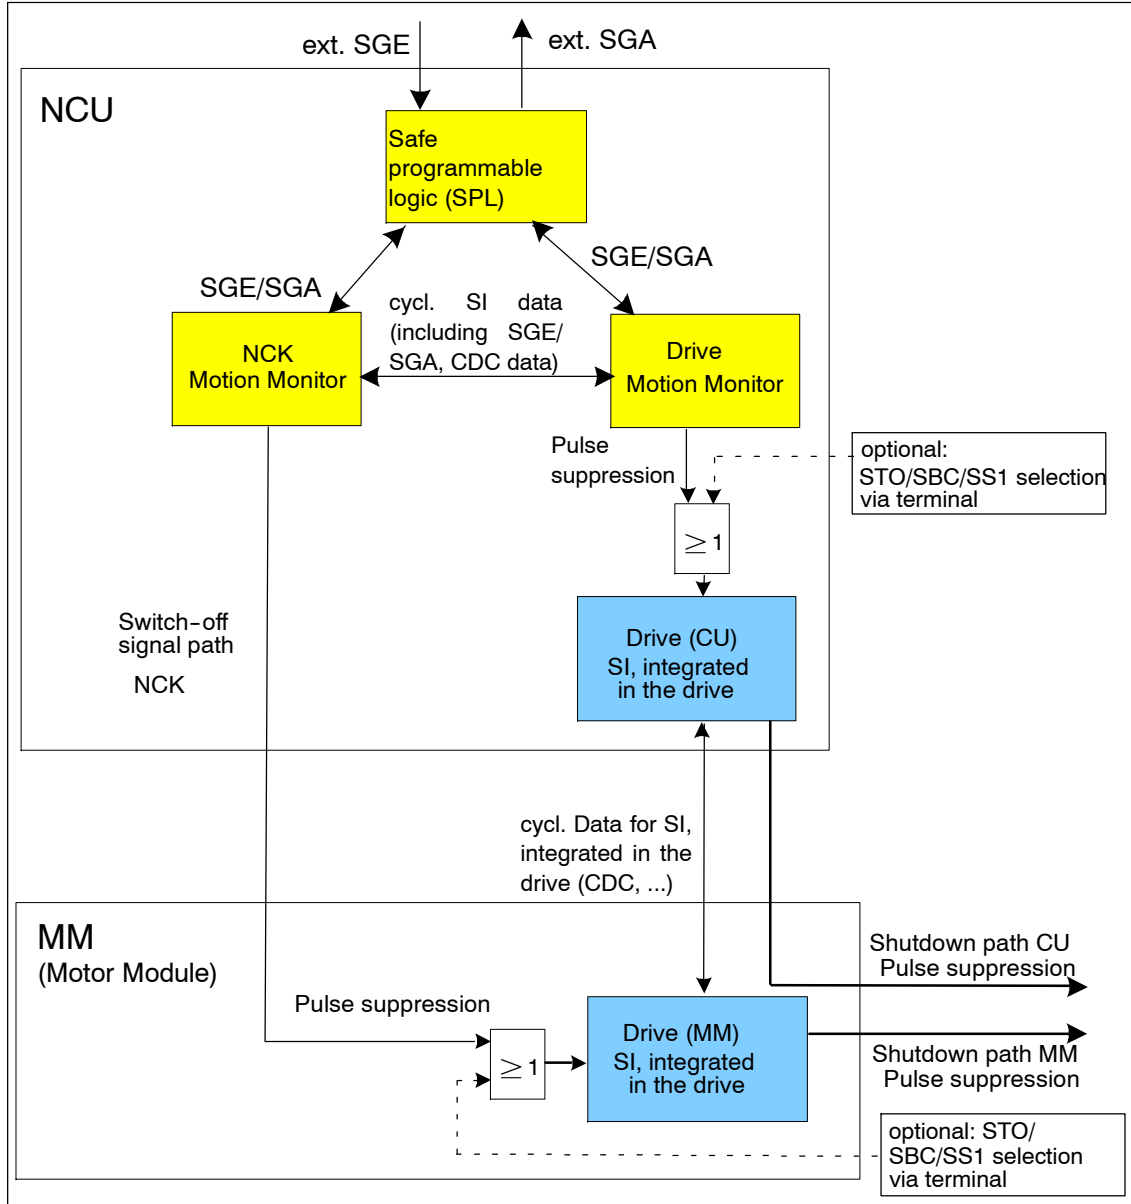

Figure 6-1 Overview of the shutdown paths
This Chapter describes the safety function safe standstill (SH), controlled from the safety-related motion monitoring functions. The function is based on the safety functions STO/SBC of the drive (see Chapter 4). Fig. 6-1 shows the interrelationships.
The interaction of the safety functions integrated in the drive and the motion monitoring functions (Motion Monitor) are shown in Fig. 6-1.